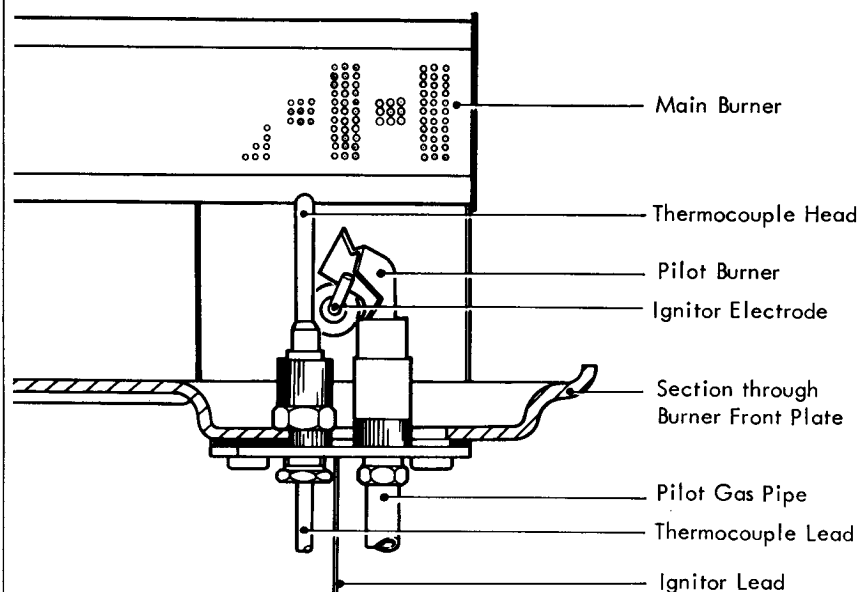

Figure 1
Main Burners and Pilot Burner (Fig.1)
1. The pilot flame impinges on the thermocouple head and that the position of the thermocouple relative to the pilot burner and the main burner is as shown (see Fig.1).